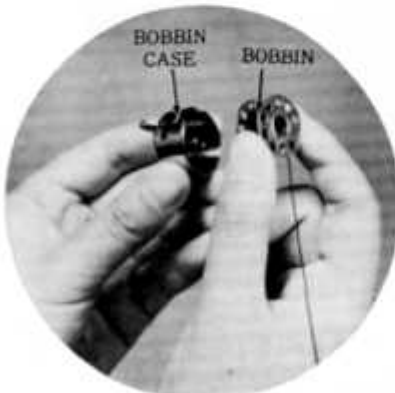

Fig. 5
Step 1 (illustrated in Fig. 5). Hold bobbin case between thumb and forefinger of left hand, so that the slot in the edge of the bobbin case is on top. Take the bobbin between thumb and forefinger of right hand so that the thread on top leads from left to right.